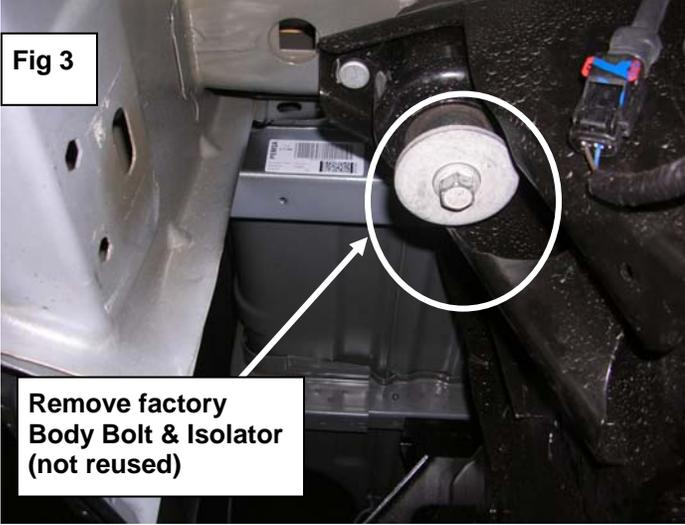

Fig 3
- Moving to the passenger/Right side rear of the vehicle, remove the rear factory body bolt, (not re-used) **(Fig 3)**, From the list above select the Passenger/Right side rear mounting bracket and secure it with (1) 12mm x 150mm Hex Bolt, (1) 12mm x 44 OD Flat Washer, (1) 12mm Lock Washers **(Fig 3A)** shows bracket attached. Snug but do not tighten hardware at this time.